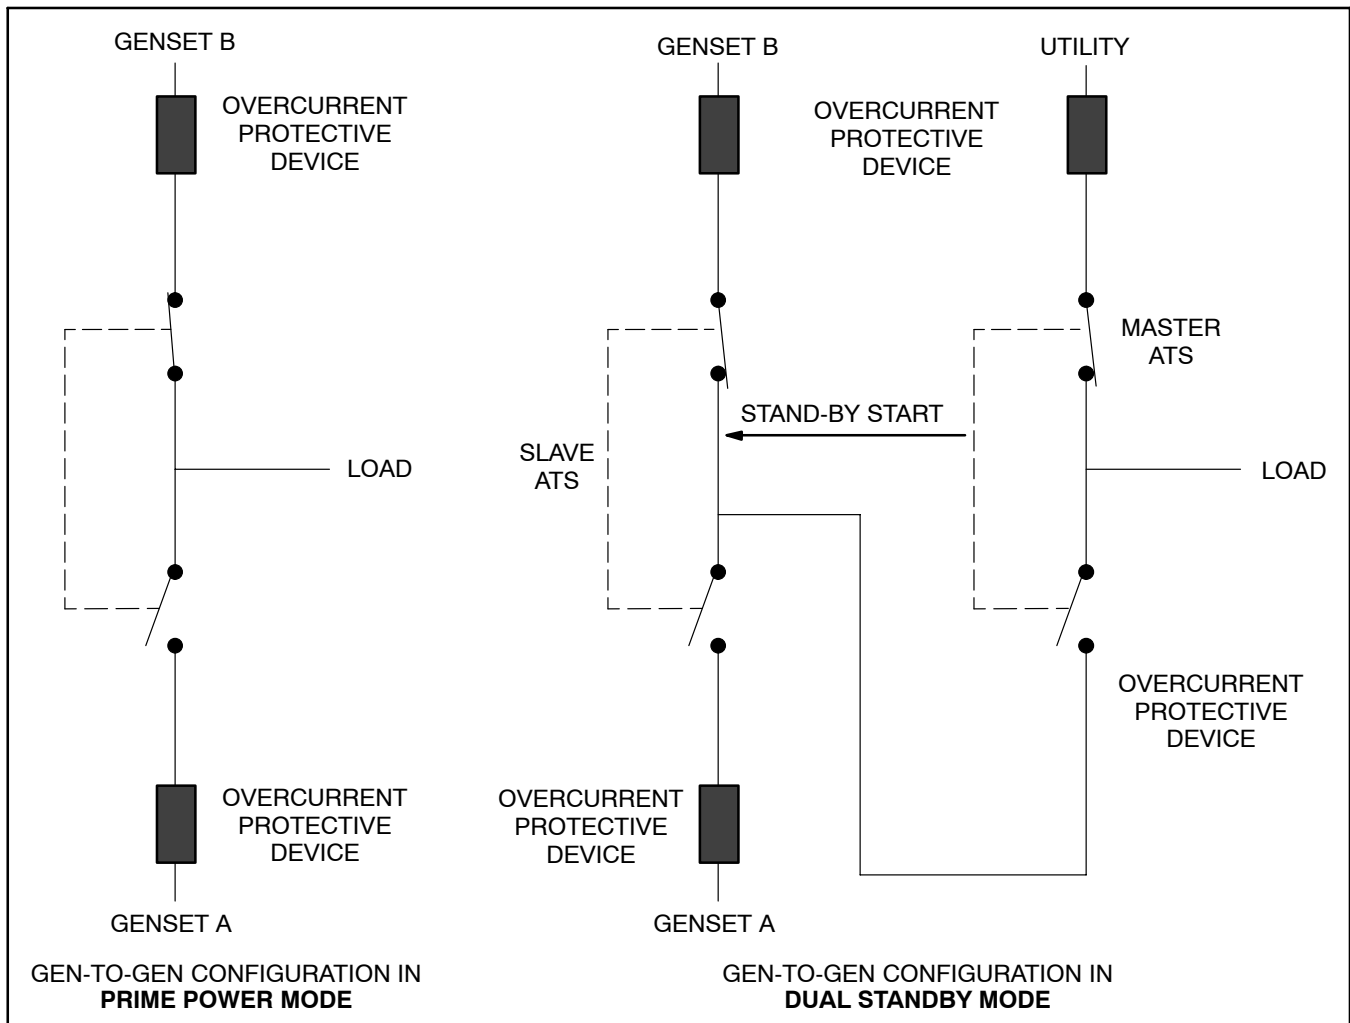

Figure 1-3. Generator-to-Generator Configuration in Prime Power and Dual Standby Modes
In genset-to-genset applications, there are two possible configurations, as shown in Figure 1-3.
1. The slave ATS begins connected to the preferred source (either genset A or B, but neither genset is operating yet) and monitors for the Stand-by Start signal from the master ATS (see Figure 1-3).
and two gensets (see Figure 1-3). One genset is always running and supplying power to the load while the other genset is the backup genset. An external power supply is not needed in this application.
In dual stand-by applications, utility power is available. The system includes two transfer switches (a Master ATS and a Slave ATS) and two gensets (see Figure 1-3). Utility power supplies power to the load and both gensets are backup gensets.